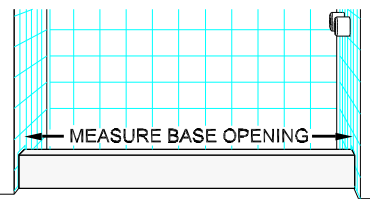

figure 1
1. Measure the base opening along center of shower curb as shown in figure 1, then trim Sill (A) to 1/16" less than measurement obtained.